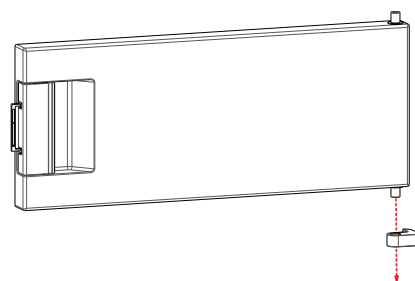

Fig. 6
- ▶ Remove the freezer compartment hinge from the underside of the door (Fig. 6).